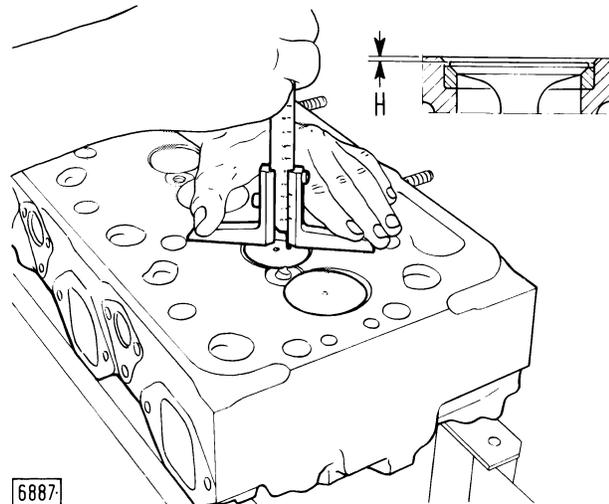
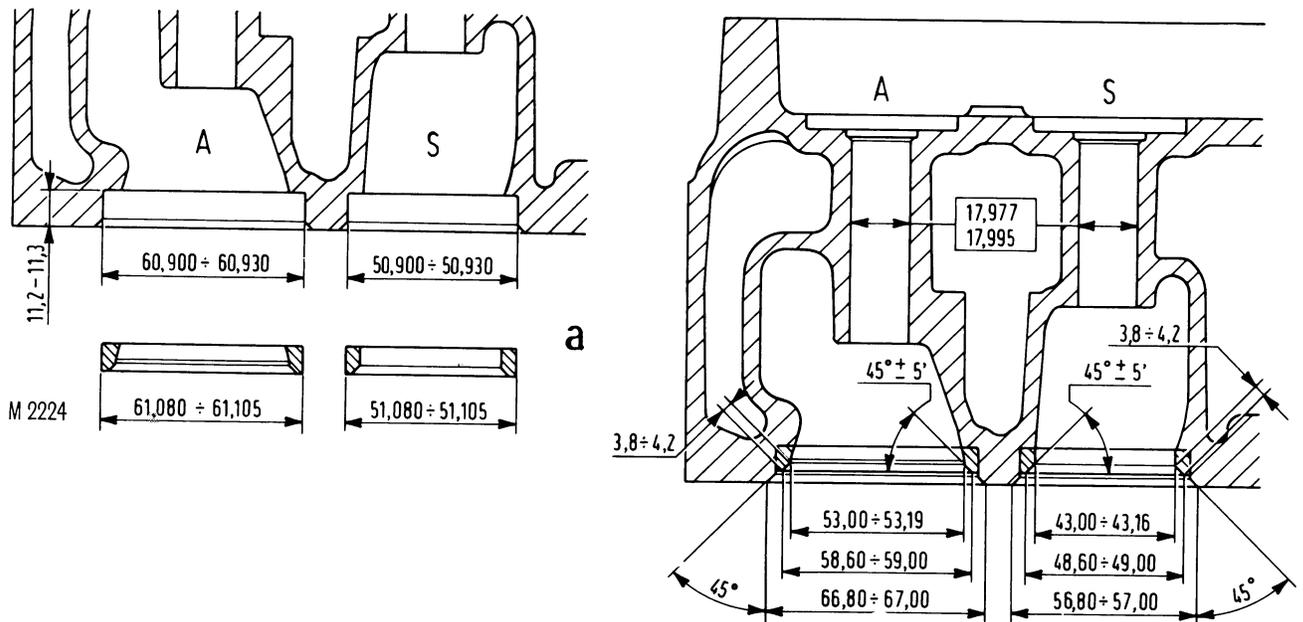

Fig. 11 - Checking valve stand-in from cylinder head.
Fig. 13 - Valve seat and guide housing details.
- Valve depth (**H**) is as specified in fig. 11.
The tool provided enables the seat width to be reduced to the value prescribed in fig. 13.
After the seats have been recut several times, when valve depth below the cylinder head face exceeds the prescribed allowance (see fig. 11), the cylinder head can be reconditioned by adopting valve seat inserts (see Data Table, Chapter 10, and Fig. 13).
After reassembly, check that valve depth below cylinder head is 1.3 to 1.9 mm or .05 to .07 in as shown in Fig. 11.